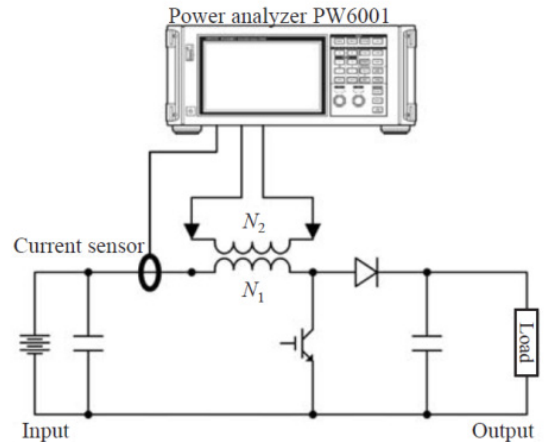

Fig. 1. Reactor loss measurement with 2-coil method
- This application note provides guidance on how to wind a detection coil. Learning the methods is extremely valuable for carrying out precise measurement of reactor loss in booster chopper circuits as shown in Fig. 1.